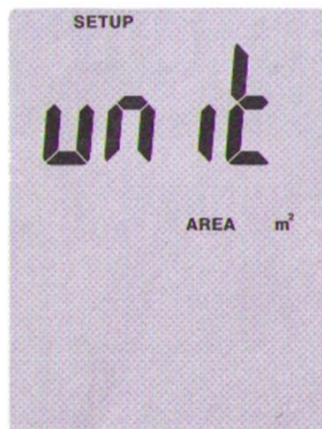
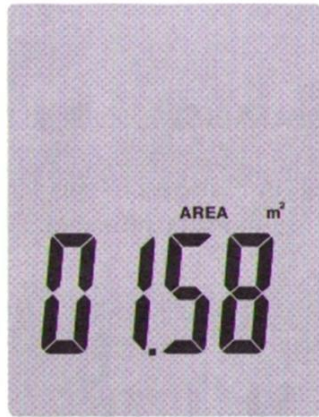

Fig 2
Fig 3
5. Move the protection ring to the lower position (Fig. 2). Use the telescopic stick (Fig. 3) to adjust the sensor to the desired length. Remember to carefully insert the sensor cable into the telescopic tube when extending it, to prevent damage to the cable.
To access the adjustment screen of the cross-sectional area, use  and  until the display indicates "AREA", the unit and the actual value of the cross-sectional area (Fig. 3). Then press  to confirm. The digits on the screen start to flash. Now you can set the decimal point by using  and  to navigate through the digits. To confirm the decimal point position, press . After that, the last digit starts to flash. You can now set its value (from 0 to 9) by using  and . Again, press  to confirm. The next digit starts to flash and you can set its value as described above. Repeat this procedure until you have set the desired values for all digits. After confirming all settings, you can exit the setup menu by holding  for 3 seconds.